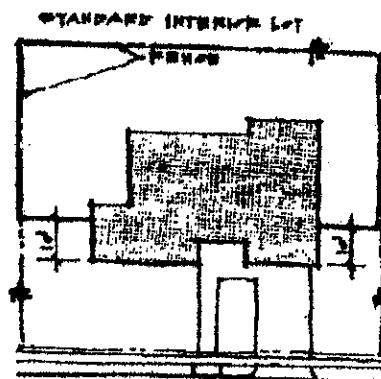

Figure III-2
- All fences must occur within or along common property lines except at corner lots (Figure III-2).